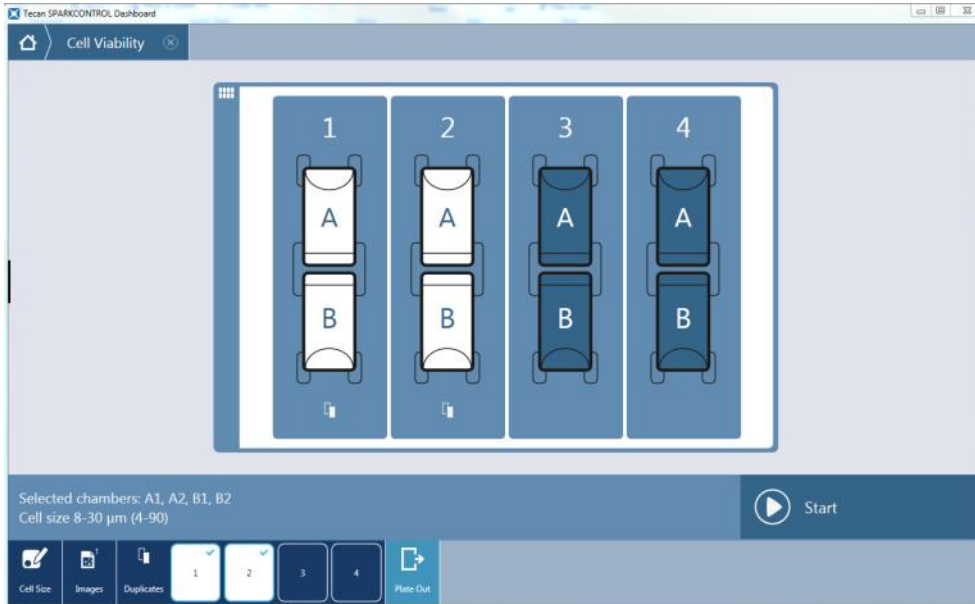

Figure 129: Cell Viability start window
1. Select the **Cell Viability** application tile and the start window appears (Figure 129: Cell Viability start window).